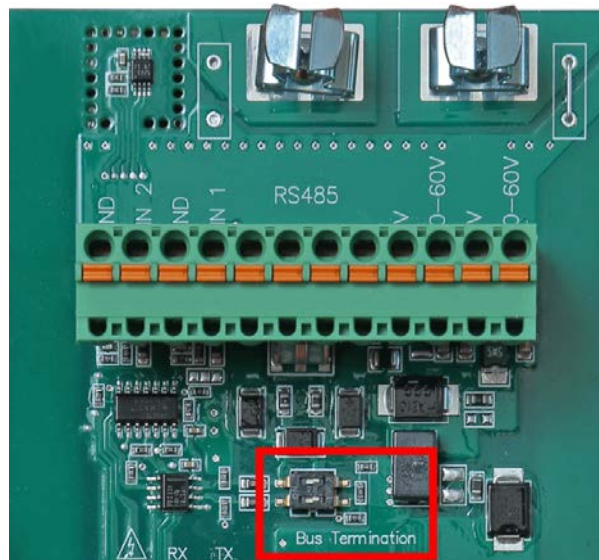

Fig. 4-2 DIP switches for activating the bus termination resistances; current setting: OFF (right, default setting).
To prevent signal reflections on the interface lines each section (bus segment) must be terminated at its physical start and end with a certain resistance. To do this, a terminating resistance is connected between the bus lines A and B. The line A is then connected via a pull-up resistor to +5 V and line B is connected via a pull-down resistor to 0 V. This cascade of three resistors ensures interference-free data transmission and defined potentials (voltage levels) when no data are being transmitted over the bus (the interface). The string.bloxx modules AIO 24/12 already have these resistors built in. You activate the resistors via *both* DIP switches; in this way both bus lines are connected to the resistance circuit: Push the switch in Fig. 4-2 to the left (ON). The DIP switches must always be both actuated, i.e. both set to ON or both set to OFF.